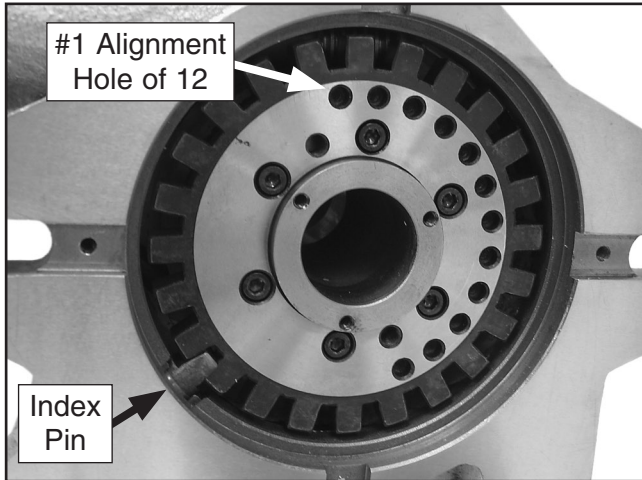

Figure 14. Spacer plate installation location.
4. Place the desired spacer plate on the hub with the pin of the plate facing in and aligned with the #1 hole of the 12 alignment holes (see **Figures 14–15**).